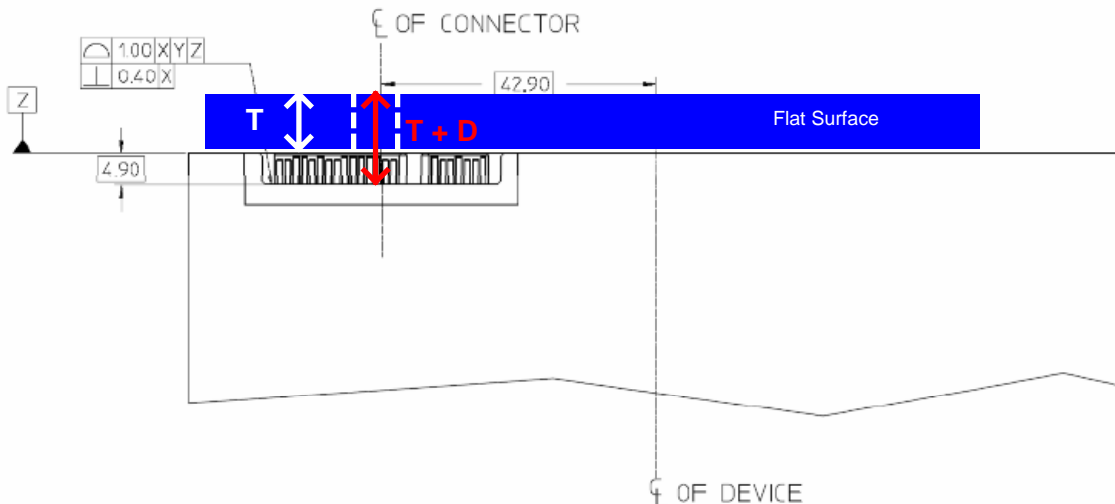

Figure 6
2. Place the drive against a flat surface, with the back surface of the drive (i.e. the “end of the device factor”) flush against the face of the flat surface, see Figure 6.
3. Using the depth measurement of the caliper measure from the face of the flat surface, through a hole in the flat surface, to the back of the tongue of the connector plug, see Figure 6. Record this value as  $T + D$ .